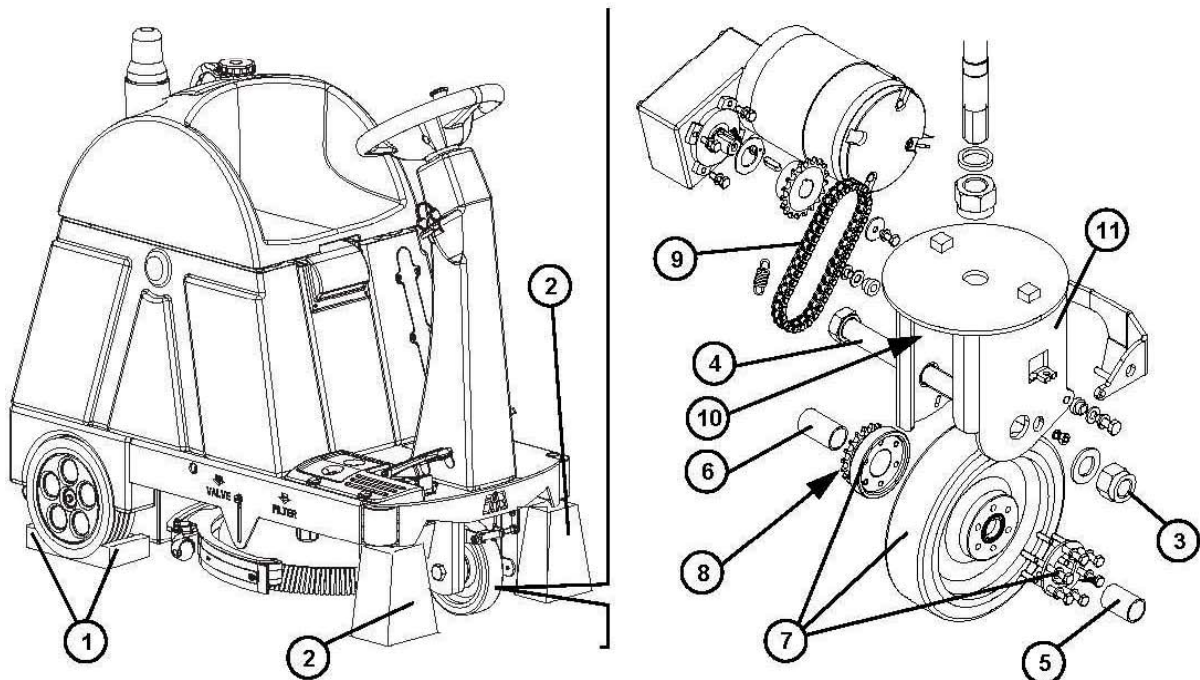

Figure 9-2
3. Apply wedges (1, **Figure 9-2**) to both rear wheels, to securely lock the machine.
4. Apply two suitable wooden shims (2) under the front frame of the machine, high enough to lift the front wheel by 5-6 cm (space necessary to then be able to remove the front wheel).
5. Unscrew the nut (3) and remove the retaining screw (4) for the front wheel.
6. Remove the spacers (5) and (6).
7. Remove the front wheel assembly (7) by releasing the pinion (8) from the chain (9).